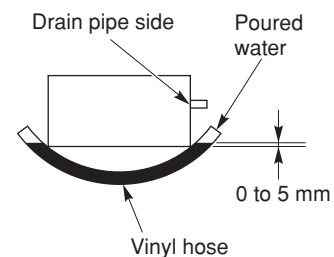

Fig. 3-9
- (4) The unit should be adjusted using water level or as shown in Fig. 3-9 so that the drain pipe side is slanted 5 mm lower than the opposite side.